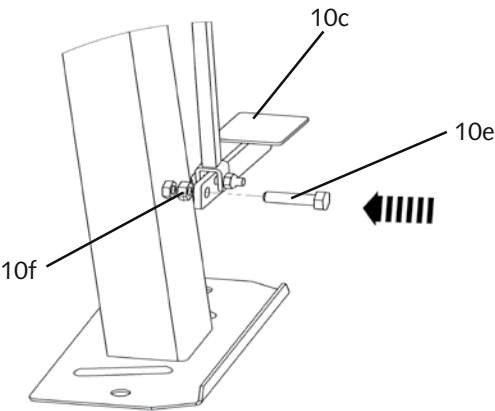

Fig. 10
- Fasten the bolt M8X40 (10e) into the nut which is welded on the support leg. Secure them with nut (10g) on the other side. (Fig. 10).